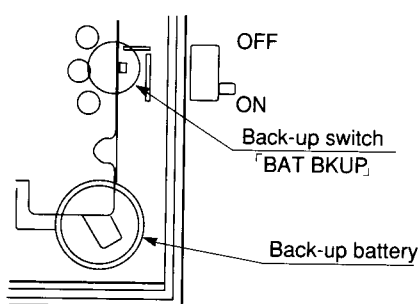

Fig. 21 021\_0059
- The battery back-up switch is located on the back of the P.C.B. Ass'y on the reverse side of the remote control unit. See Fig. 21.